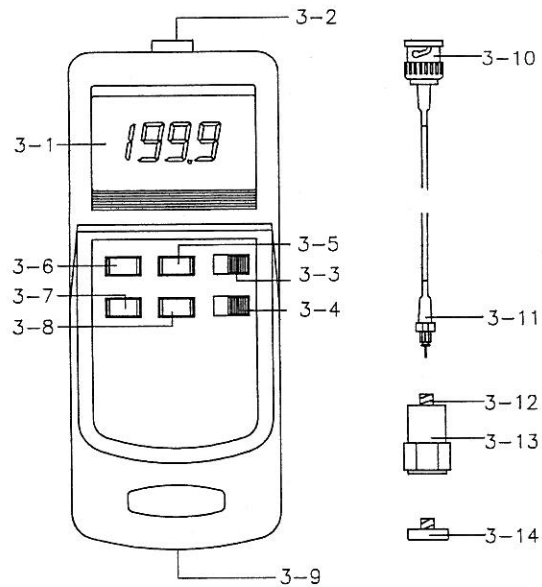
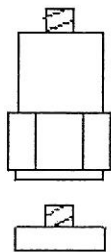
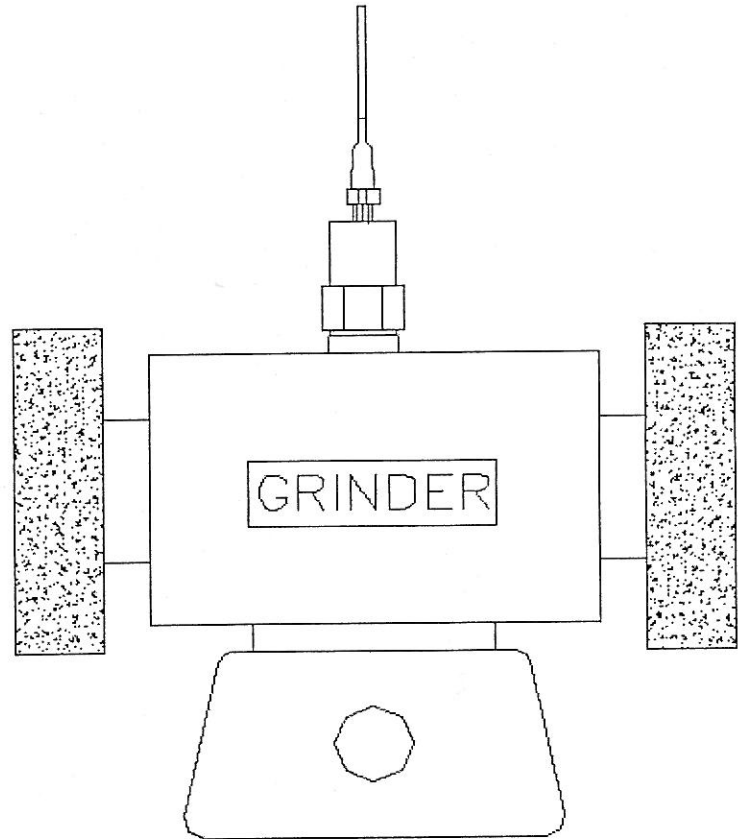

Fig. 1
Fig. 3
Fig. 4
- 1) Plug in the " BNC plug of cable " ( 3-10, Fig. 1 ) to the " BNC socket of meter " ( 3-2, Fig. 1 ).
- 2) Plug in the " Mini plug of cable " ( 3-11, Fig. 1 ) to the " Input socket of vibration sensor " ( 3-12, Fig. 1 ).
- 3) For the acceleration measurement, select the " Acceleration/Velocity switch " ( 3-4, Fig. 1 ) to the " ACC. " position.
For the velocity measurement, select the " Acceleration/Velocity switch " ( 3-4, Fig. 1 ) to the " VEL. " position.
- 4) Select the " RMS/PEAK switch " ( 3-3, Fig. 1 ) to the " RMS " position.
- 5) Power on the meter by pushing the " Power button " ( 3-6, Fig. 1 ) once.
8) If the surface material of measuring article is the ferrous material, connect " Vibration sensor " ( 3-13, Fig. 1 ) with the " Magnetic base " ( 3-14, Fig. 1 ), refer to Fig. 3, page 6. Put the whole unit ( Vibration sensor & Magnetic base ) to the surface of measuring article, refer to Fig. 4, page 7
During the measurement, push the " Record Button " ( 3-7, Fig. 1 ) to execute the memory record function.
- 2) Loose the screw from the battery cover, then open the " Battery Cover " ( 3-9, Fig. 1 ) away from the instrument and remove the battery.